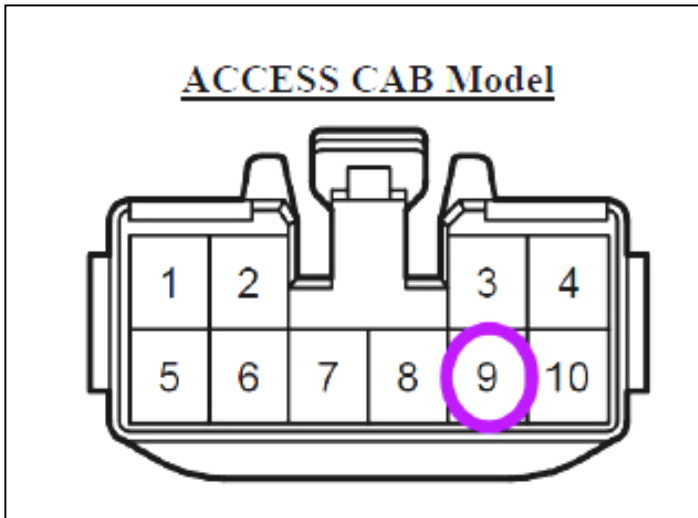

Figure 17M
- d. Find D35 BLACK connector clipped into the back of trim panel to the left of the driver’s steering wheel. Attach a RED 18-22 AWG T-Tap to the PURPLE wire Pin 9. Use pliers to ensure the T-Tap is snapped in correctly. Plug the BLACK wire from the Bed Light LED wire harness into the T-Tap. See Figures 17M, 17N & 17O.